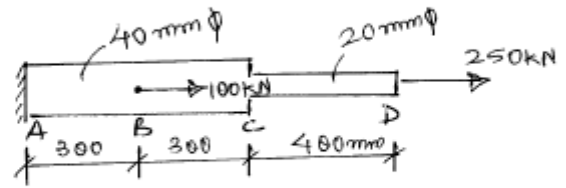

Fig. 2. Q.2(a)
- Q.2** (a) Find the total deformation of a steel rod subjected to a force of 250kN, as shown in Fig.2. Length of rod is 1000mm and Modulus of Elasticity of steel is 200GPa **07**